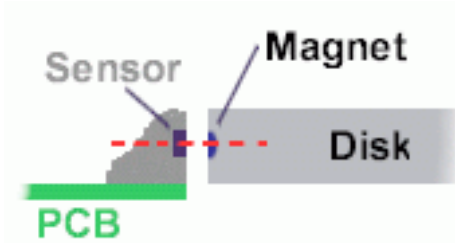

Figure 6 Ensure correct alignment of magnet disk and sensor.
- Take care that the magnets in the disk are approximately in the same height as the sensor, see figure 6 on the next page.